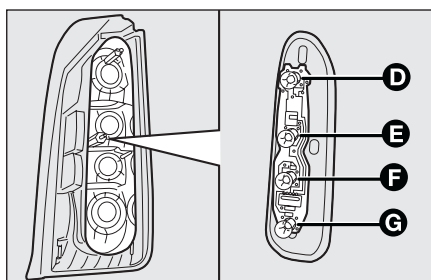

fig. 29
- ☐ extract the bulbs **D - E - F - G** fig. 29 by pushing them slightly and turning them anticlockwise;